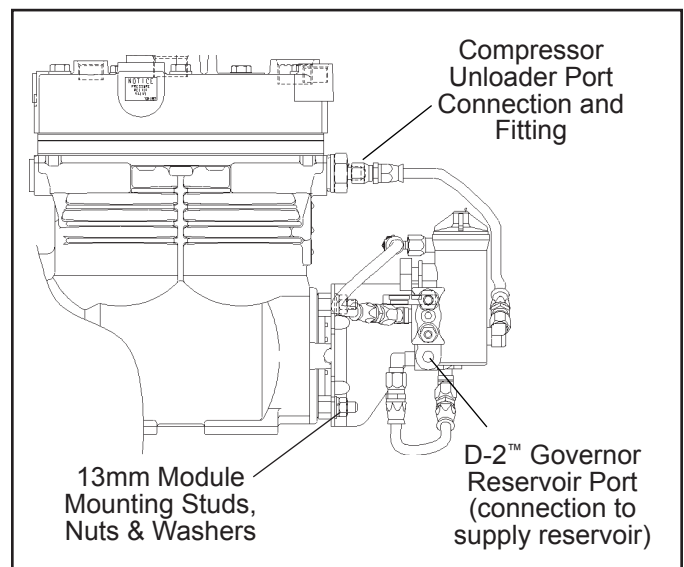

Figure 2 – Installation
5. Remove the metal braided hose from the fitting installed in the compressor unloader port. (See Figure 2.)
5. Install the governor module on the studs and orient it as shown in *Figure 2*. Secure the module bracket on the studs installing the flat washers, then lock washers and 13mm nuts. Torque the nuts to 195-212 in-lbs.
8. Connect a length of hose to the governor reservoir port (marked RES) fitting (this fitting is not supplied with the module or kit) on the module assembly. (See *Figures 2 & 4*.)